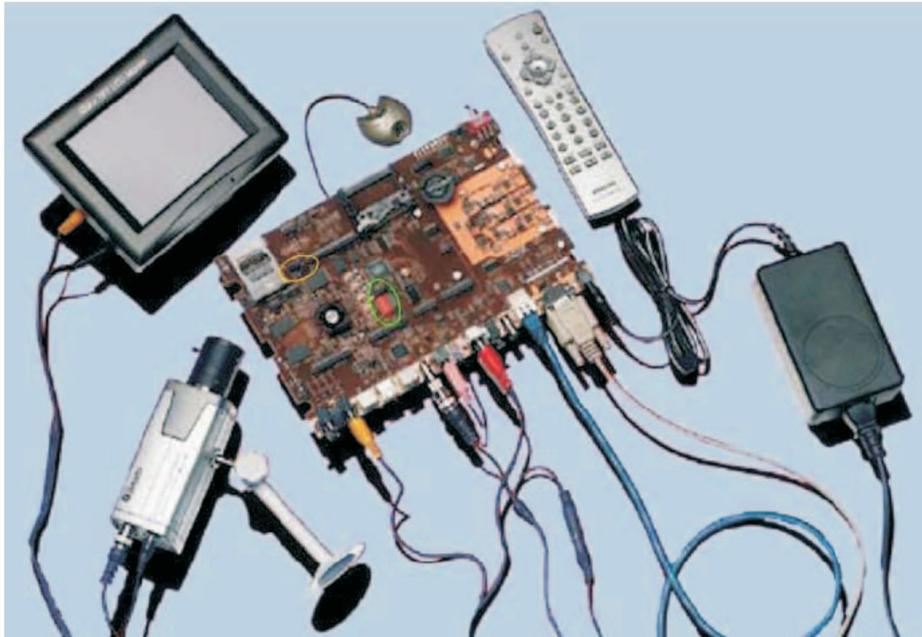

Figure 1. TMDXEVM6446, DVEV
1. Set J4 jumper (circled in yellow in Figure 1) to NAND.
2. Set S3 red switch (circled in green in Figure 1) to 0000111110, where 1=on and 0 =off.